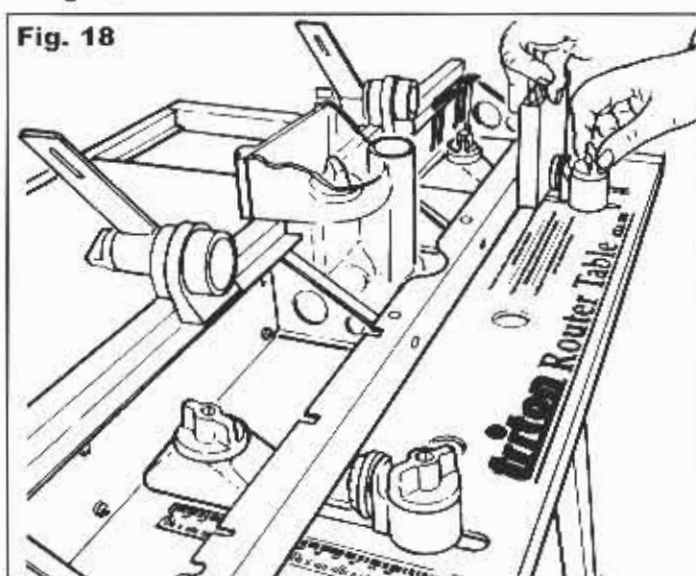

Fig. 18
The **Micro Adjusters** (45) should be fitted in their storage position when not in use, as shown in **Fig. 10**. When in use they relocate to the slots behind the fence, as shown in **Fig. 18**.
- Place your offcut between the back flange of the fence and the micro-adjusters then tighten them into position. **Fig. 18**